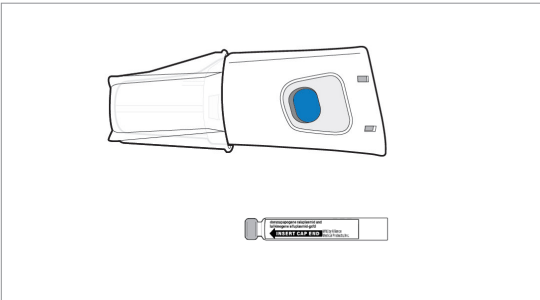

Figure 36 Array (top) and VOCERYQ Cartridge (bottom)
1. Gather supplies (see Figure 36):